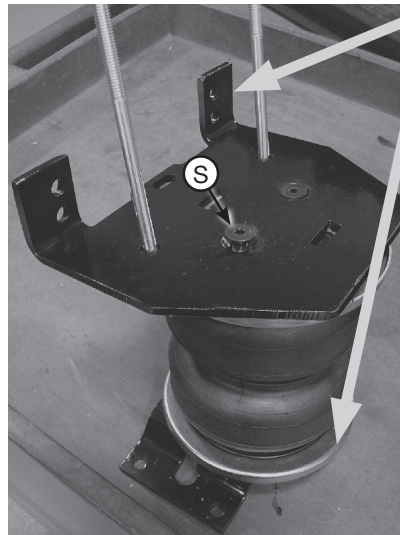

fig. D.9
- Insert two 3/8"-16 x 10" carriage bolts (K) through the square holes in the lower bracket main plate (B) (Fig. D.9).